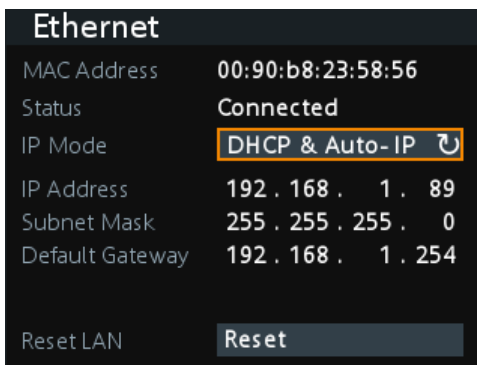

Figure 4-2: Ethernet settings dialog
3. **NOTICE!** If the R&S NGA100 cannot obtain an IP address automatically, or cannot establish the connection, the status shows "Disconnected" in the Figure 4-2.
If switched on and connected, the R&S NGA100 indicates the address information and LAN parameters in the Ethernet settings dialog. See Figure 4-2.